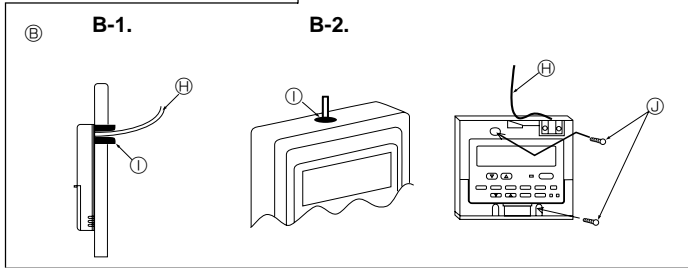

Fig. 4-2
(2) Seal the service entrance for the remote controller cable with putty to prevent possible invasion of dew drops, water, cockroaches or insects. (Fig. 4-2)
[Fig.4-2]